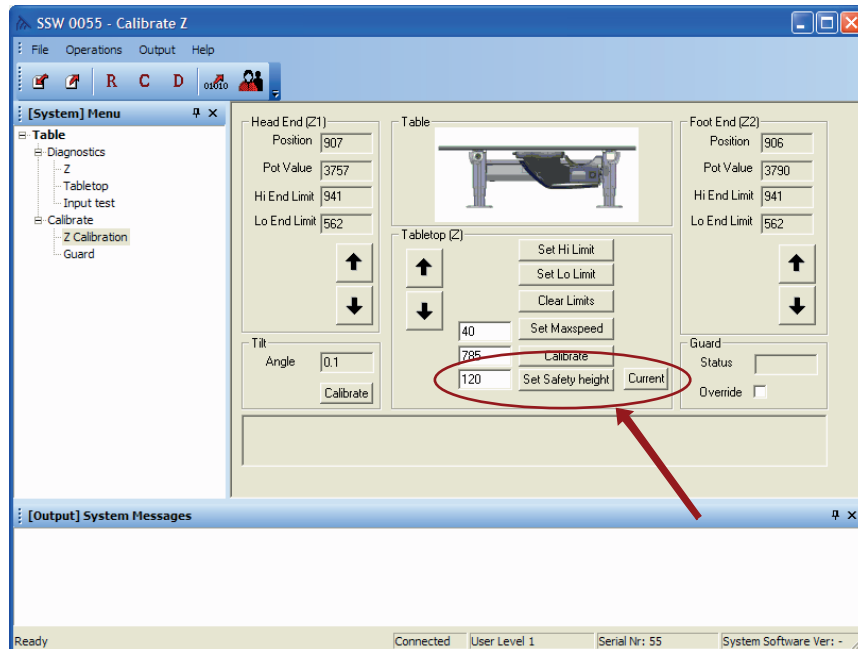

Fig. 5-162
3. Press the *Current* button beside the *Set Safety Height* button, see Fig. 5-162 .